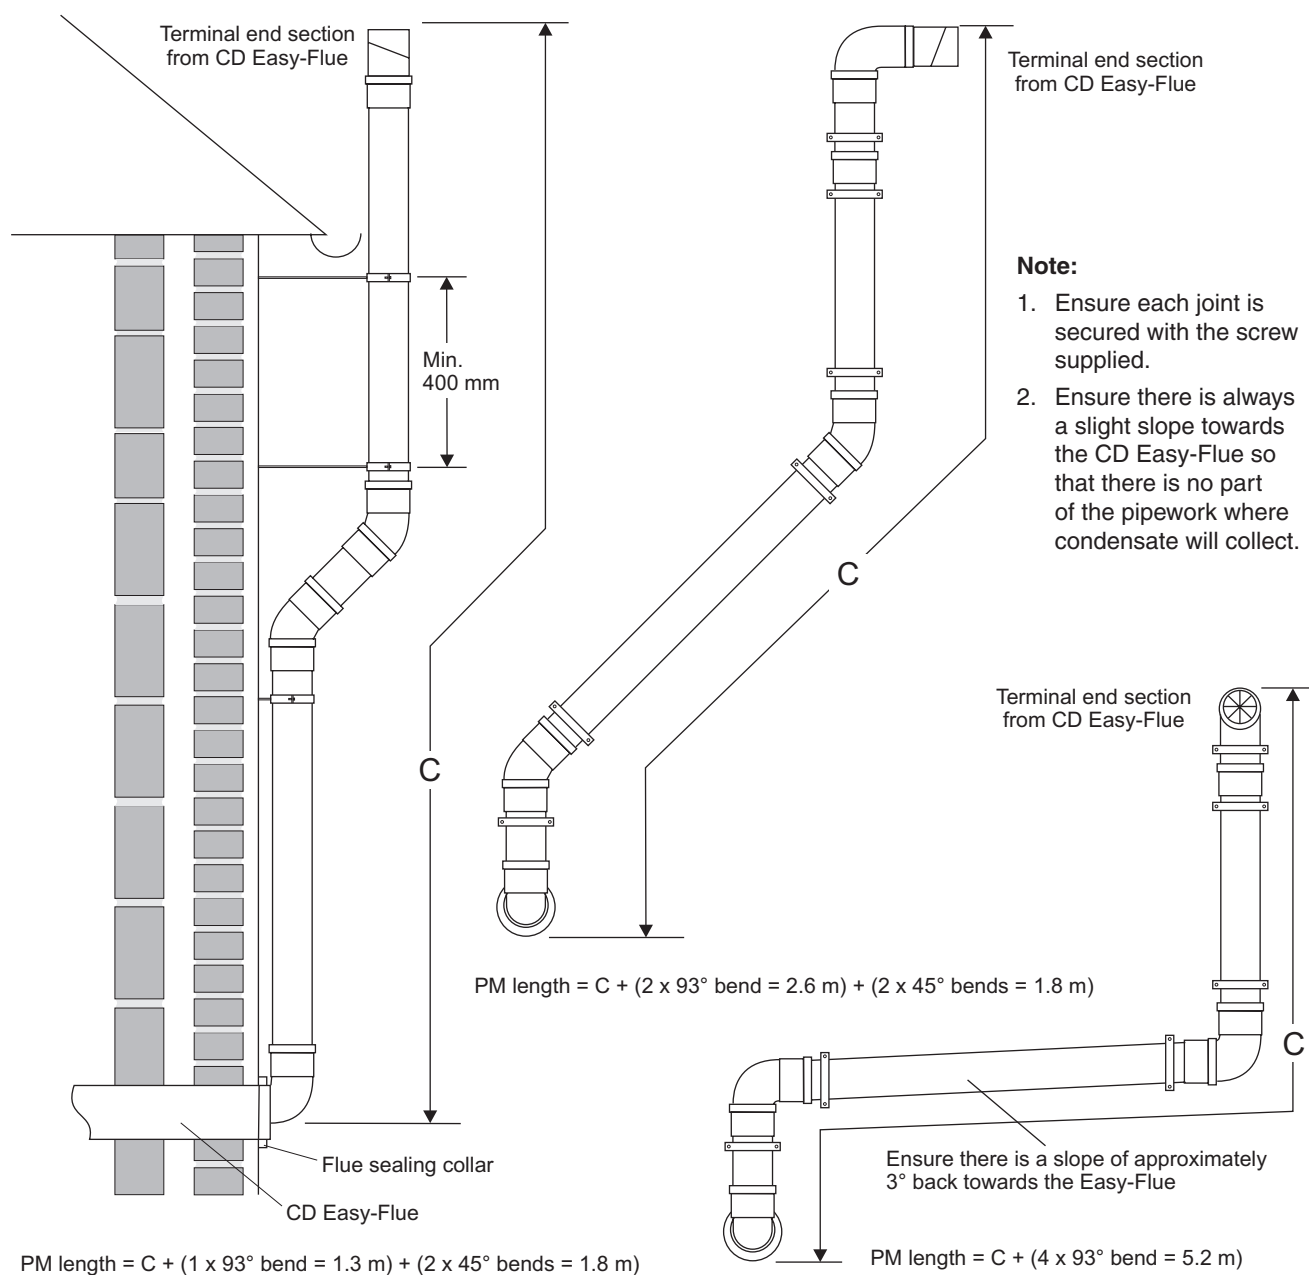

Fig. 4.13
- iii. Connect to the 93° bend the required Plume Management components as detailed and refer to Fig. 4.13.
- iv. Terminate the Plume Management pipework by fitting the terminal end section (push-fit) previously removed. Refer to Fig. 4.13.